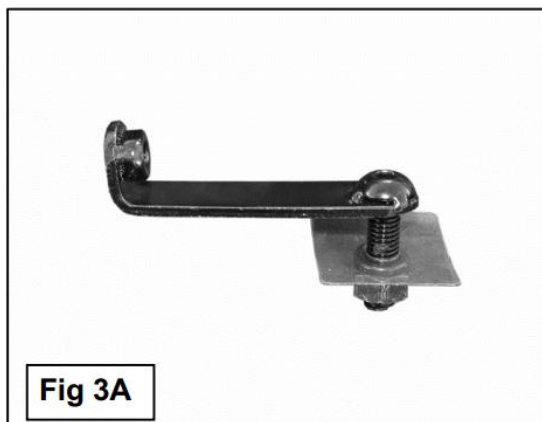

Fig 3A
3. Select (1) 10mm Bolt&Nut Plate, **(FIG 3A)**. Insert the bent end with the 8mm nut into the hole in the bottom of the floor panel, **(FIG 3B)**. Line up the hex nut with the hole in the side of the floor panel. Thread (1) 10mm Plastic Retainer onto the 10mm Bolt end of the Bolt&Nut Plate, **(FIG 3B)**. **NOTE:**The Plastic Retainer is provided to help hold the Bolt&Nut Plate in position during Bracket installation.